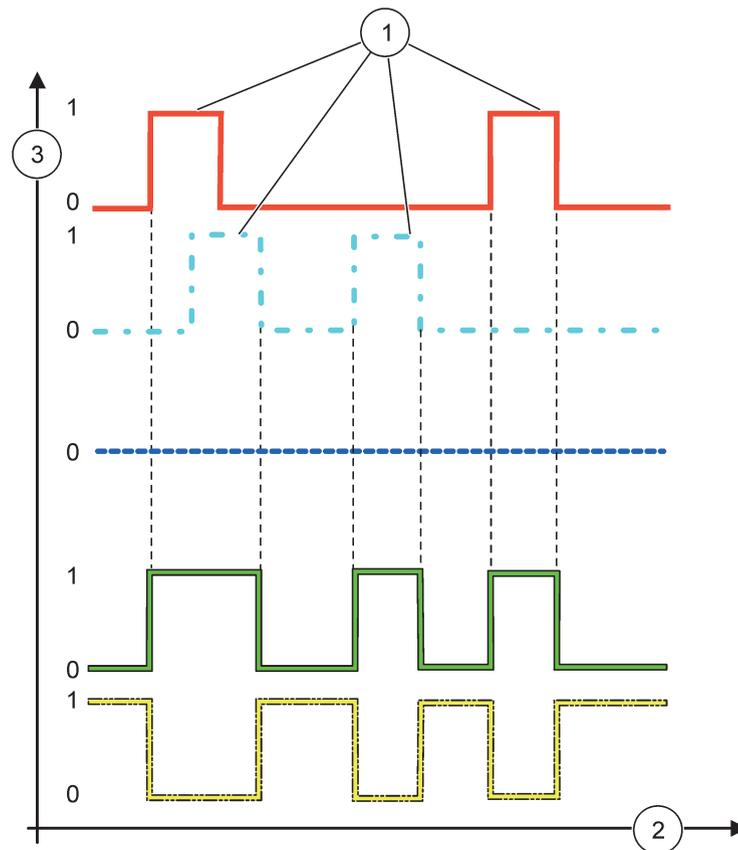

Figure 60 Relay behavior—Warning mode (provided Error List and Warning List are enabled)
Figure 60 shows the behavior of the relay in the Warning mode under different conditions.
**Table 33 Color/line code for Figure 60**